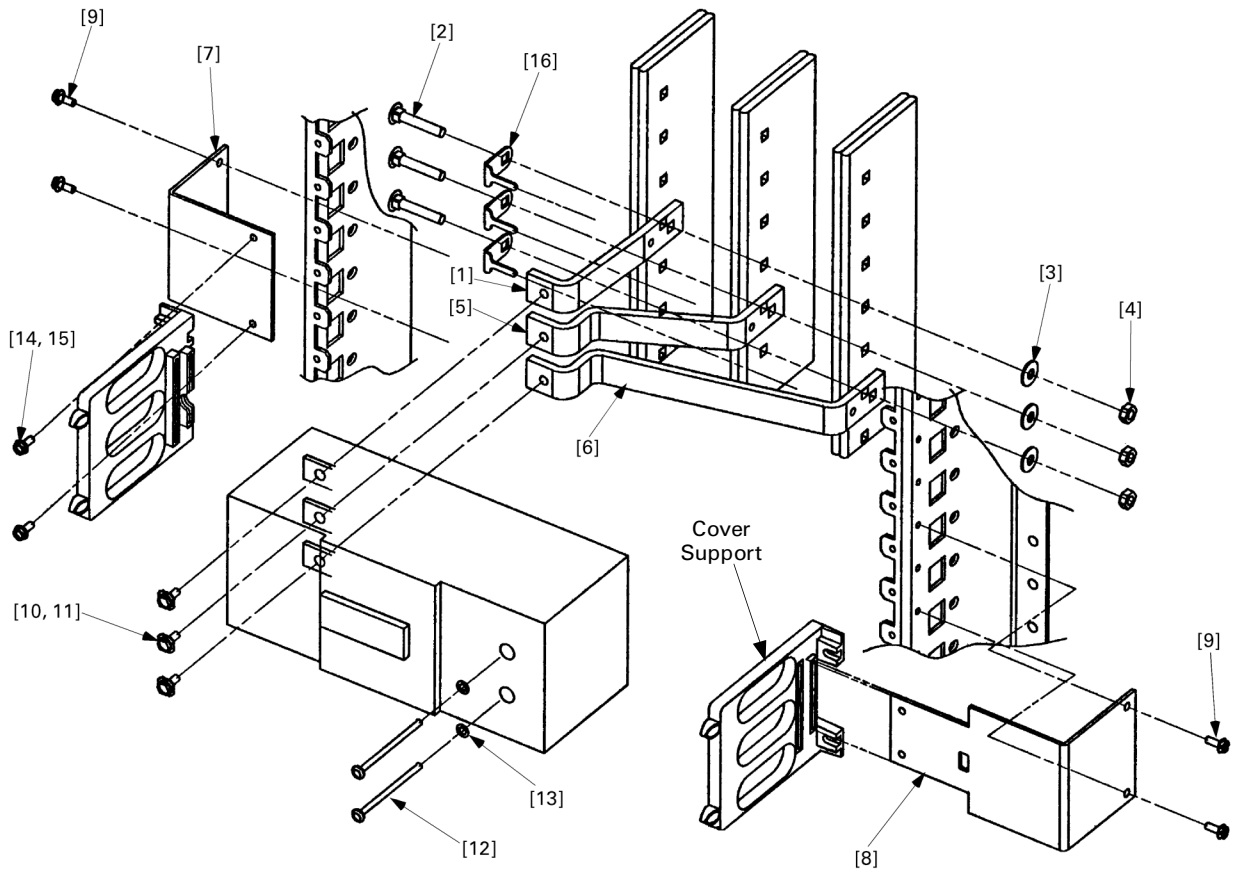
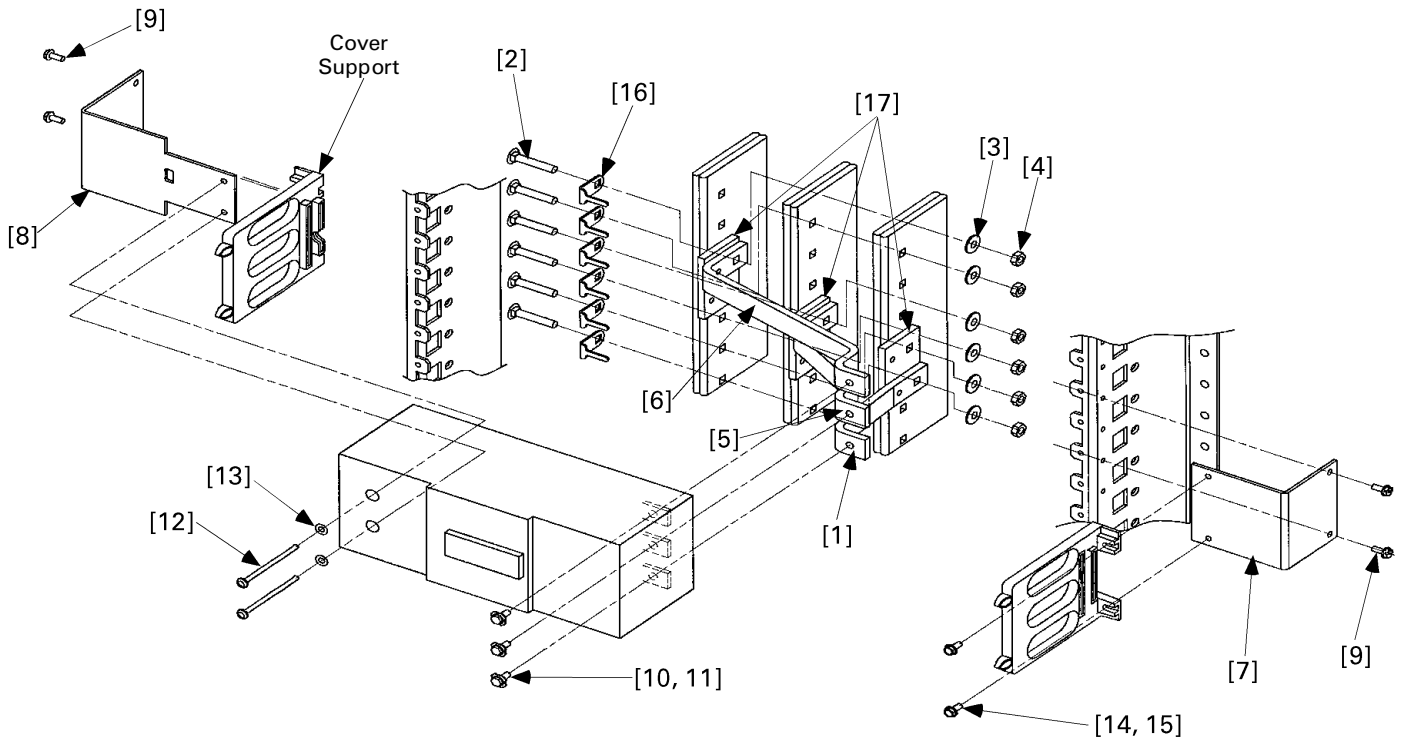

Figure 1. Single bolt-on circuit breaker assembly, exploded view.
Figure 3. Single bolt-on circuit breaker assembly with spacers.
**a. Main and single-branch breakers.** Install the circuit breaker straps beginning with the outermost poles, as shown in Figures 1 and 3. Slide an antiturn clip [16] over the square shank of a carriage bolt [2]. Insert the carriage bolt assembly into the front square hole so that the pin rests on top of the vertical bus.
For a right-hand cable connection, align the square hole in the strap [1] with the carriage bolt [2] and slide it against the vertical bus, so that the pin on the antiturn clip [16] is inserted into the small hole on the strap, as shown in Figure 1.
For a left-hand cable connection, position the strap [1] and the spacer [17] so that the square hole and hole above are aligned, then insert the carriage bolt [2] and antiturn clip [16] so that the pin of the clip is inserted into the small hole in the strap and spacer, as shown in Figure 3.
Secure the complete strap assembly to the vertical bus with the Belleville washer [3] and nut [4]. Leave the connection finger tight at this time. Repeat the process on the center-pole strap [5] and then install the last strap [6], as shown in Figure 1 or Figure 3.